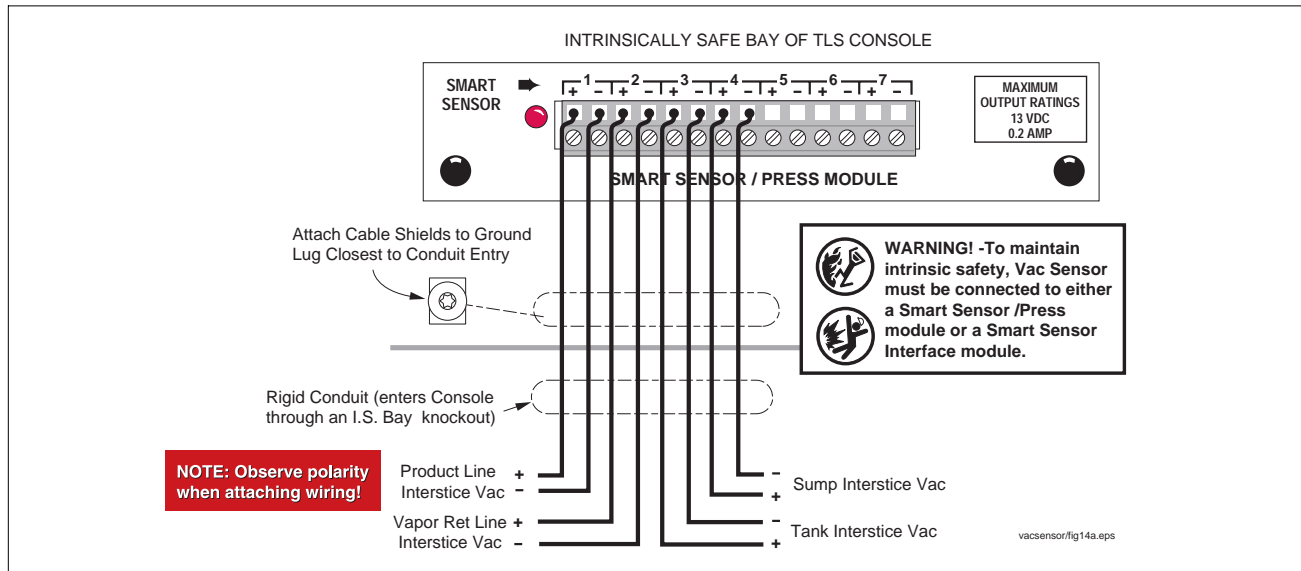

Figure 16. Attaching Vac Sensors to Smart Sensor / Press Module
1. Connect each Vac Sensor/Vac Float pair and the Vac Sensor/ Tank Interstitial Float pair cables to either a Smart Sensor/Press module or a Smart Sensor Interface module as shown in Figure 16. Note: at least one Smart Sensor/Press module must be installed in the console for proper Vac Sensor operation.